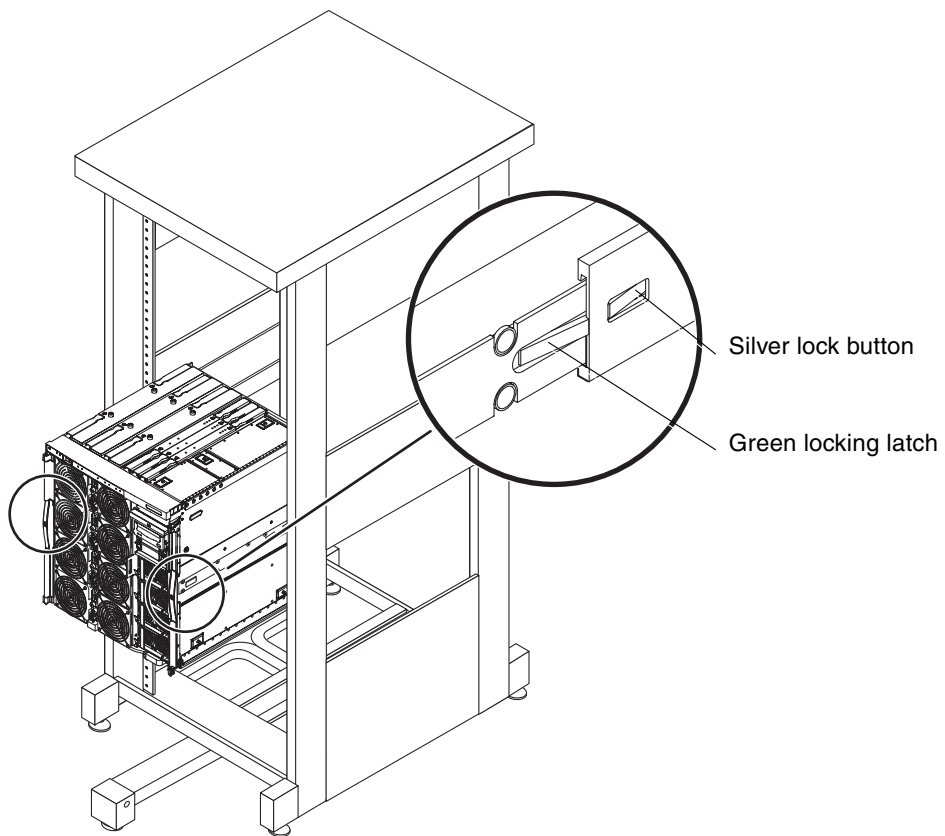

FIGURE 3-7 Sliding the System Out of the System Cabinet
6. Extend the system completely out of the cabinet until the green locking latches snap into place and the slides lock into the fully extended position (FIGURE 3-7).
9. With the lifting device fully supporting the weight of the system, press the silver slide lock buttons (FIGURE 3-7) on the right and left slide assemblies. Pull the system away from the cabinet.
9. **Press the green latches on each slide. Push the system into the cabinet (FIGURE 3-7).**